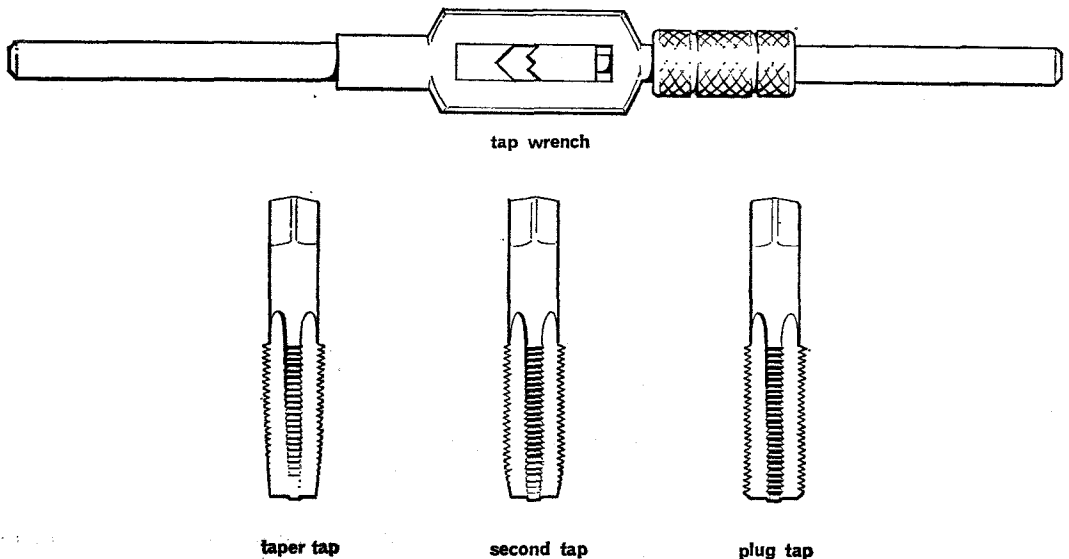

Fig. 7 Taps and tap wrench
14. **Taps.** Taps are used to cut *internal* screw threads. They are short screws of hardened steel fluted to form cutting edges (Fig. 7). The top of a tap is made square to fit into a tap wrench. Taps are supplied in sets of three:
- b. *Second tap.* This is used after the taper tap to deepen the threads, where it has not been possible to cut full threads with the taper, *eg* in a blind hole. It is tapered for the first six threads only (Fig. 7). In some sets, such as BA sizes, a second tap is not supplied.